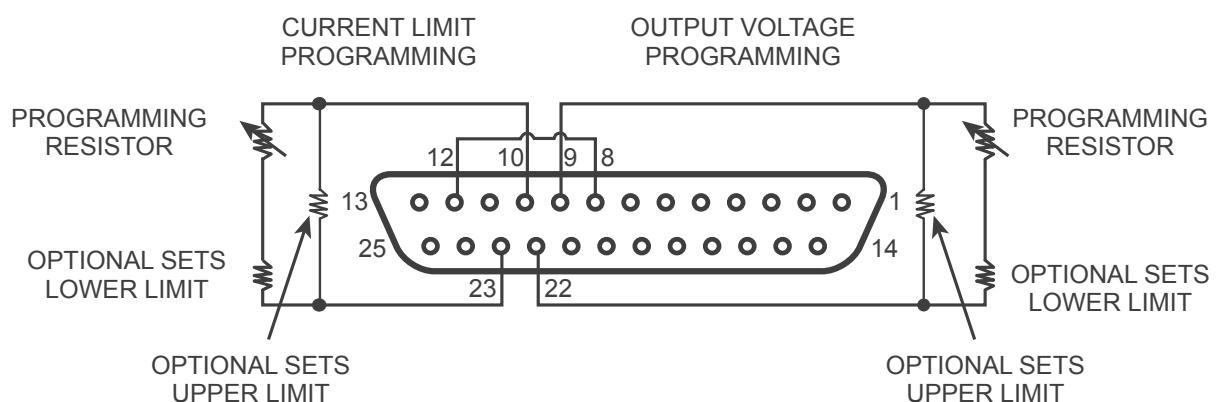

Fig.4-2: Remote resistive programming
6. Connect the programming resistors to the mating plug of J1 as shown in Fig.4-2.